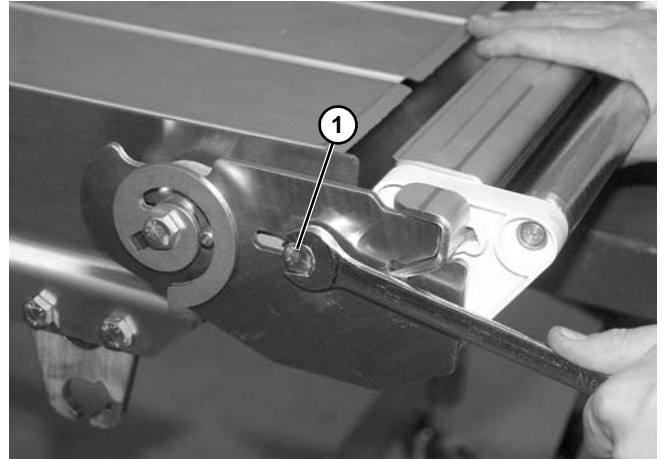

Figure 149
- Remove screw (**Figure 149, item 1**) on each side of the conveyor.